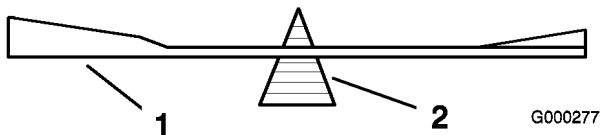
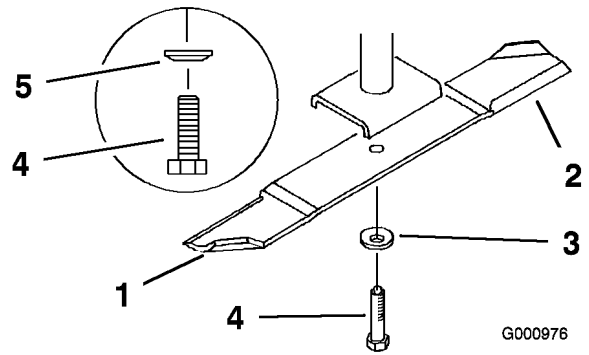

Figure 64
Figure 65
2. Remove the blade bolt, spring disk and blade from the spindle shaft (Figure 65).
2. Check the balance of the blade by putting it on a blade balancer (Figure 64). If the blade stays in a horizontal position, the blade is balanced and can be used. If the blade is not balanced, file some metal off the end of the sail area only (Figure 65). Repeat this procedure until the blade is balanced.
1. Install the blade onto the spindle shaft (Figure 65).
2. Install the spring disk and blade bolt. The spring disk cone must be installed toward the bolt head (Figure 65).